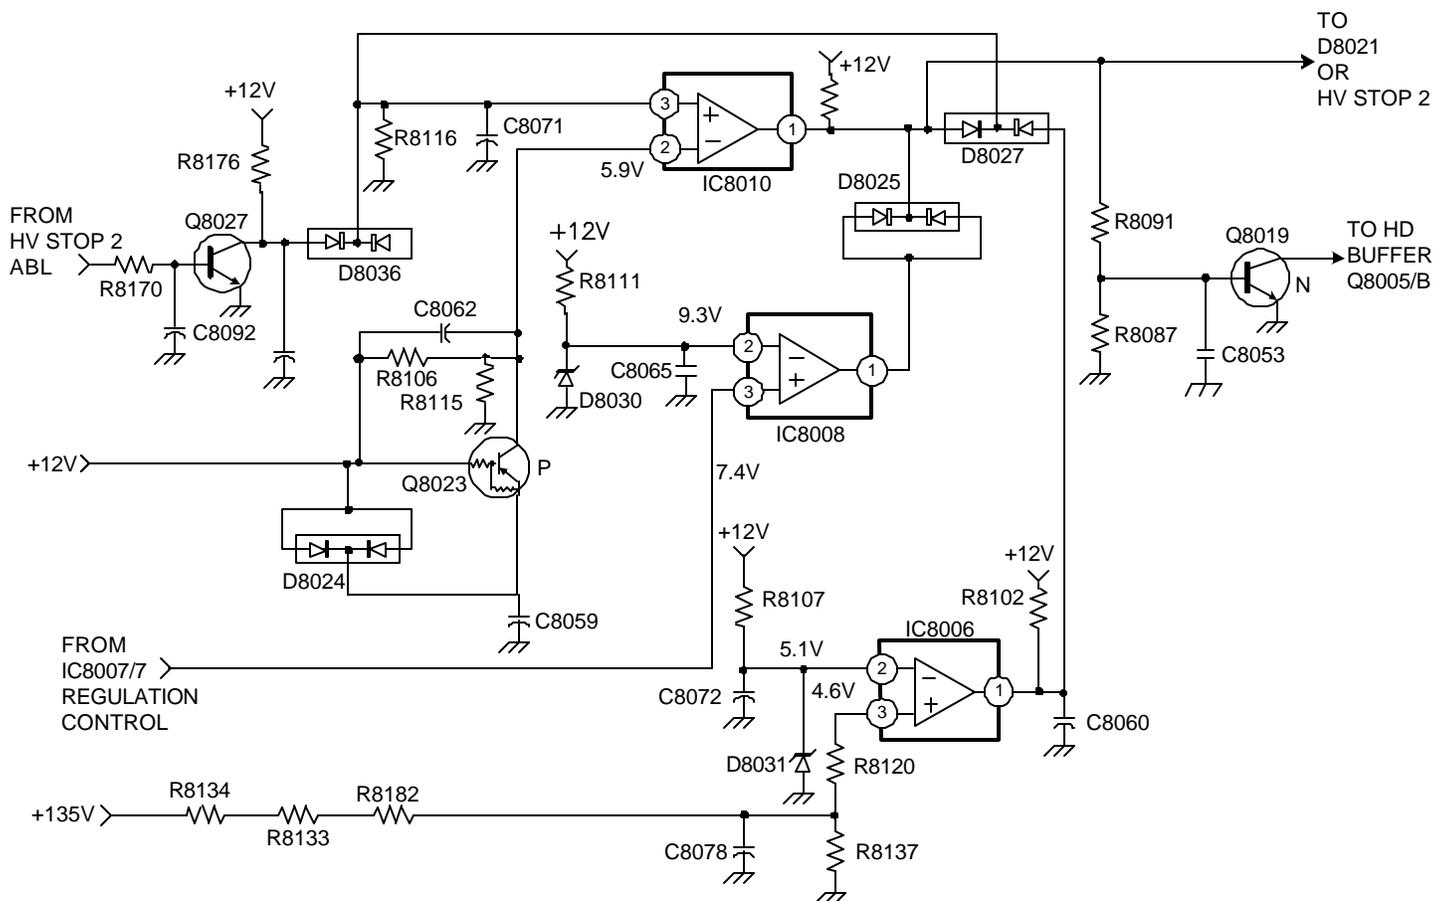

FIGURE 11-5 - HV STOP 1
**HV Stop 1:** Figure 11-5 contains the paths for the first set of protection components. HV level is monitored from the HV block by pin 3 of IC8008. This is compared to a reference of 9.3VDC at pin 2. If the high voltage rises above acceptable levels (34KV), pin 3 will exceed the reference. Pin 1 will go high. The H pulse driving the HV circuit will be grounded by Q8019 and the high signal will sent to OSD CPU IC1009 to flash the timer LED in sequences of seven.